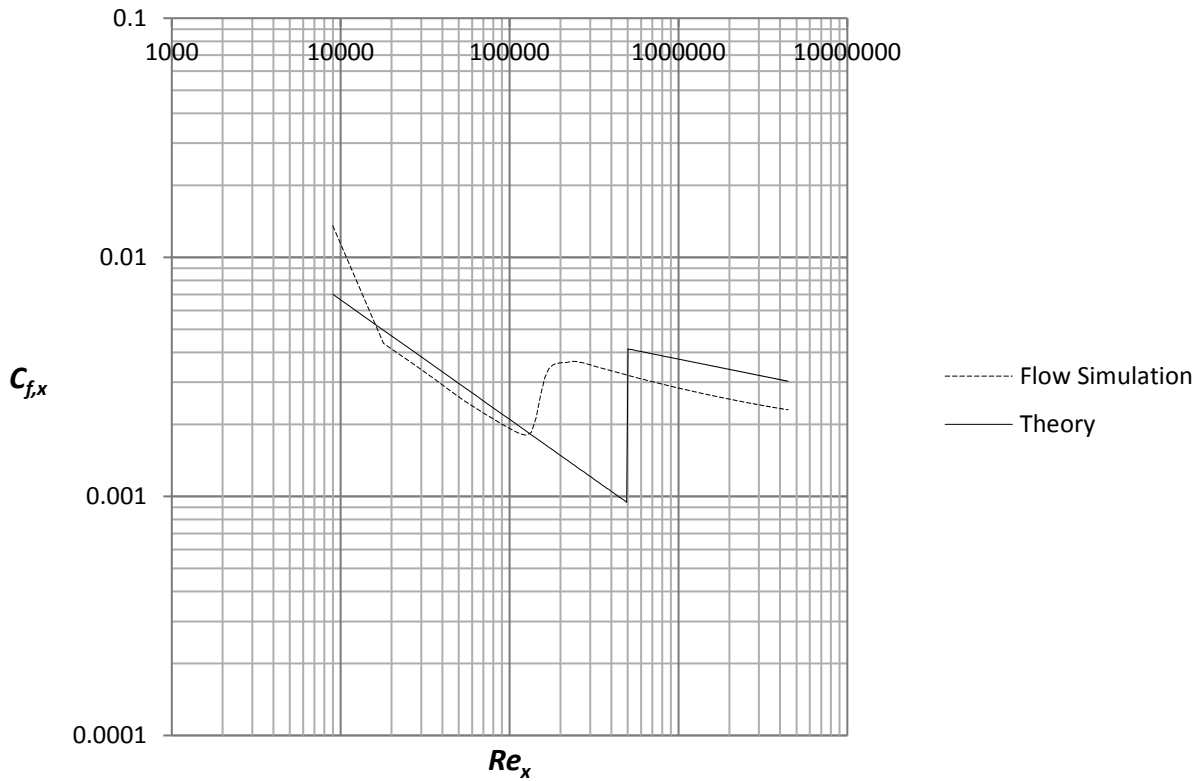

Figure 2.32 Comparison between Flow Simulation (dashed line) and theoretical laminar and empirical turbulent friction coefficients
34. Place the file “**graph 2.32**” on the desktop. Repeat step 24 and choose the sketch  $x = 0 - 0.9$  m, uncheck the box for **Velocity (X)** and check the box for **Shear Stress**. Rename the xy-plot to **Local Friction Coefficient for Laminar and Turbulent Boundary Layer**. An Excel file will open with figure 2.32. Figure 2.32 is showing the Flow Simulation is able to capture the local friction coefficient in the laminar region in the Reynolds number range 10,000 – 150,000. At  $Re = 150,000$  there is an abrupt increase in the friction coefficient caused by laminar to turbulent transition. In the turbulent region the friction coefficient is decreasing again but the local friction coefficient from Flow Simulation is significantly lower than empirical data.